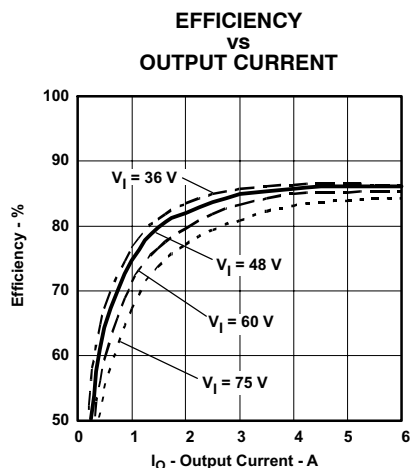
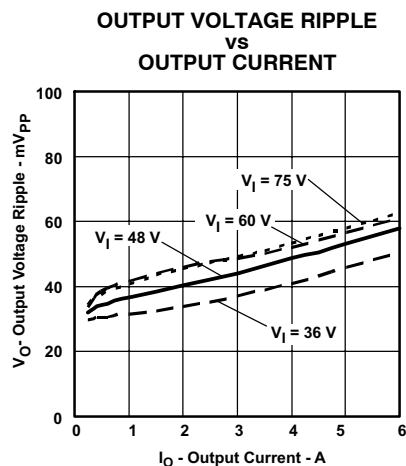
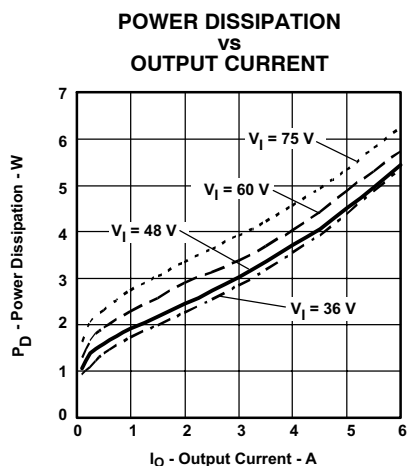

Figure 5.
Figure 6.
Figure 7.
- (3) All data listed in Figure 5, Figure 6, and Figure 7 have been developed from actual products tested at 25°C. This data is considered typical data for the dc-dc converter.